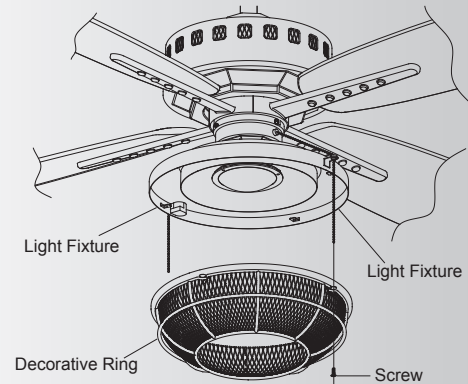

Fig. 4
Step 5. Secure the decorative ring to the light fixture by fitting it up securely to the light fixture. Secure the decorative ring with the flat head screws. (Fig. 4)